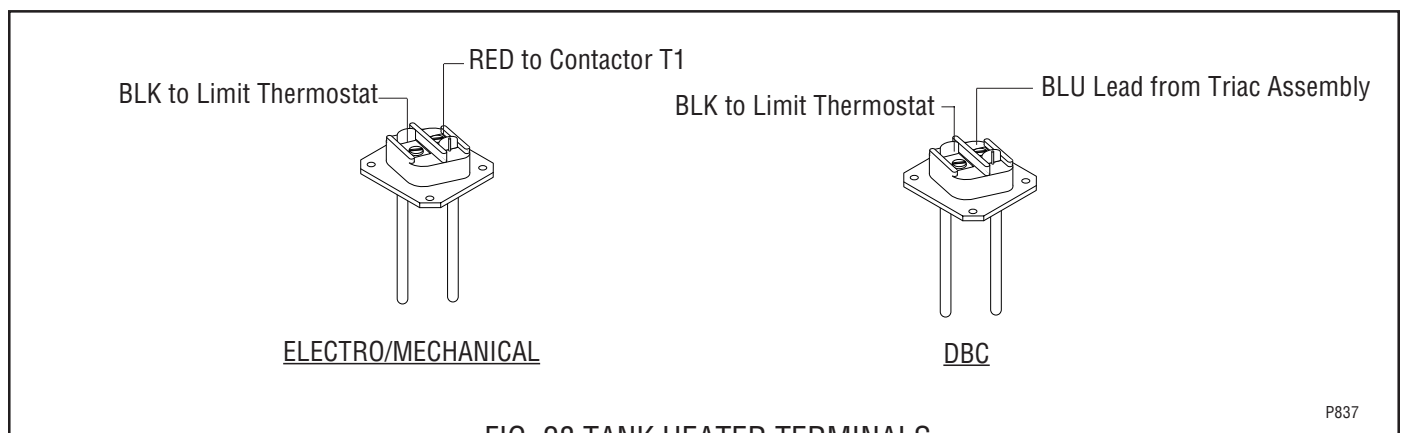

FIG. 28 TANK HEATER TERMINALS
5. Refer to Fig. 28 when reconnecting the wires.